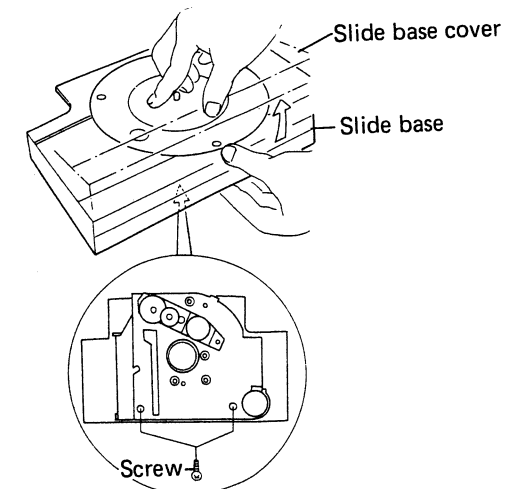

Fig. 5-5 Slide base remove
6. The slide base cover is held by hooks in the slide base. The front section is secured by screws in two places. The screws are loosened as shown in Figure 5-5, and the slide base cover is lifted up from the forward side of the slide base while holding the platter to prevent it from coming off.
7. The turntable is not easily separated from its bearing assembly with the PL-X50. For removal, the slide base must be in the record-load position (record disc loading position), and screw ② removed from the bottom side of the slide rail. The bearing assembly and platter will come off together. Since the drive belt is still attached to the platter, be careful not to damage the belt.